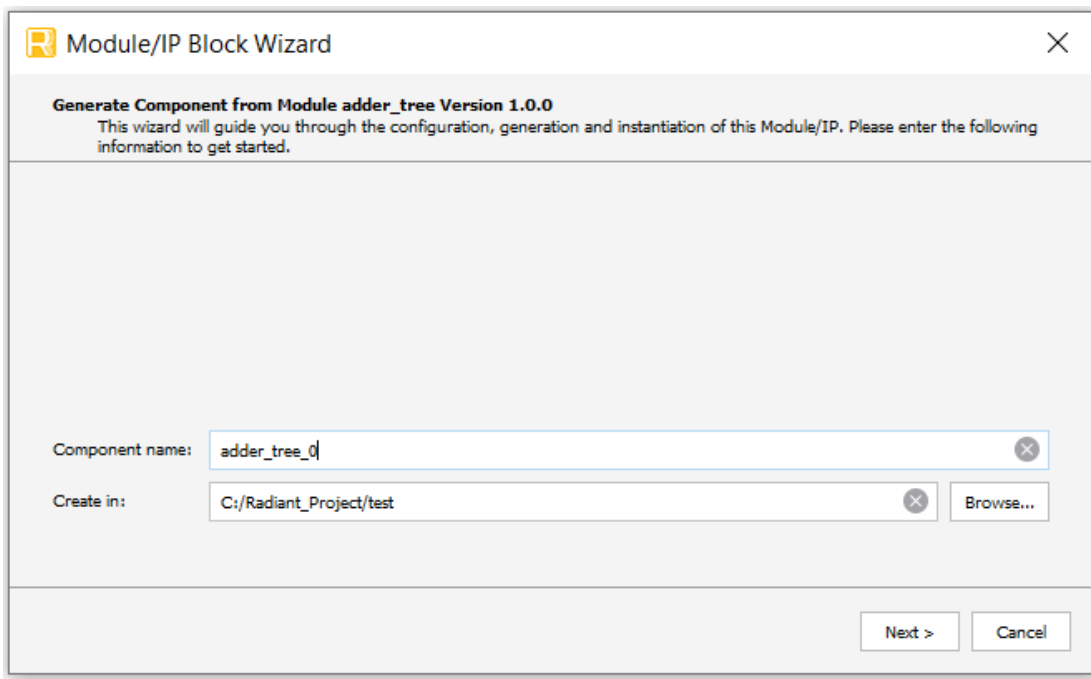

Figure 3.1. Module/IP Block Wizard
3. The **Module/IP Block Wizard** opens as shown in Figure 3.1. Enter values in the **Component name** and the **Create in** fields and click **Next**.
6. Click **Finish**. All the generated files are placed under the directory paths in the **Create in** and the **Instance name** fields shown in Figure 3.1.